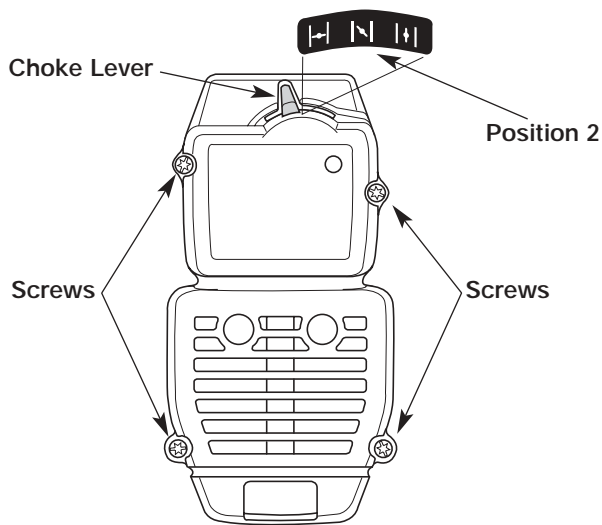

FIGURE 21
1. Place the choke lever in **Position 2**, Figure 21.
NOTE: *The choke lever must be in **Position 2** to remove the air filter/muffler cover, Figure 21.*
2. Remove the four (4) screws securing the air filter/muffler cover, Figure 21. Use a flat blade or #T20 Torx bit screwdriver.
NOTE: *The choke lever must be in **Position 2** to install the air filter/muffler cover, Figure 21.*
2. Insert the four (4) screws into the holes in the air filter/muffler cover and tighten, Figure 21. Use a flat blade or #T20 Torx bit screwdriver. Do not over-tighten. Do not force.